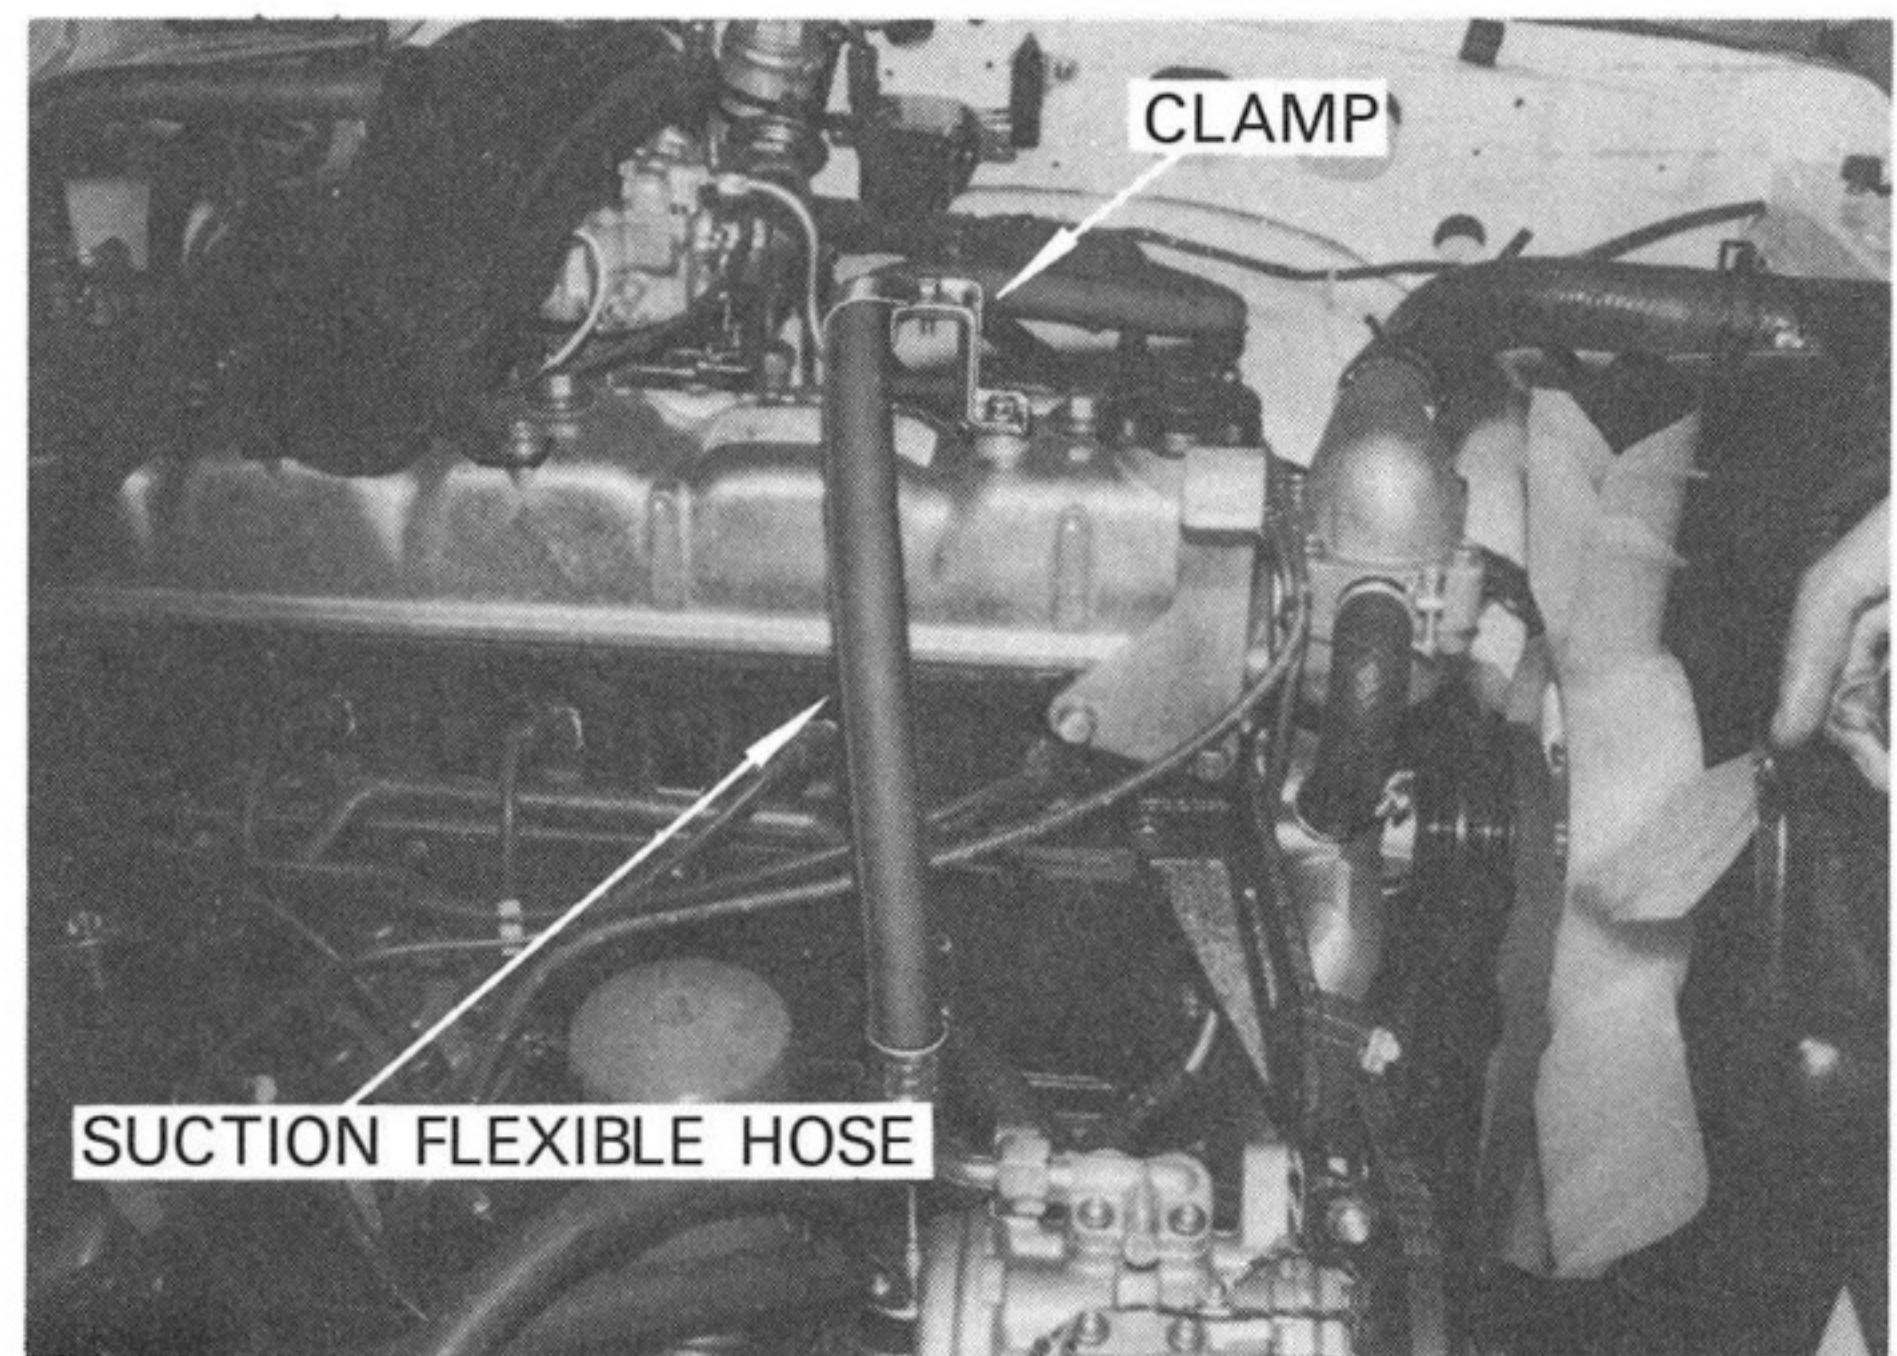

Fig. 34
- D) Fasten the suction flexible hose on the engine cylinder head using L-shaped bracket and a clamp. See Fig. 34.